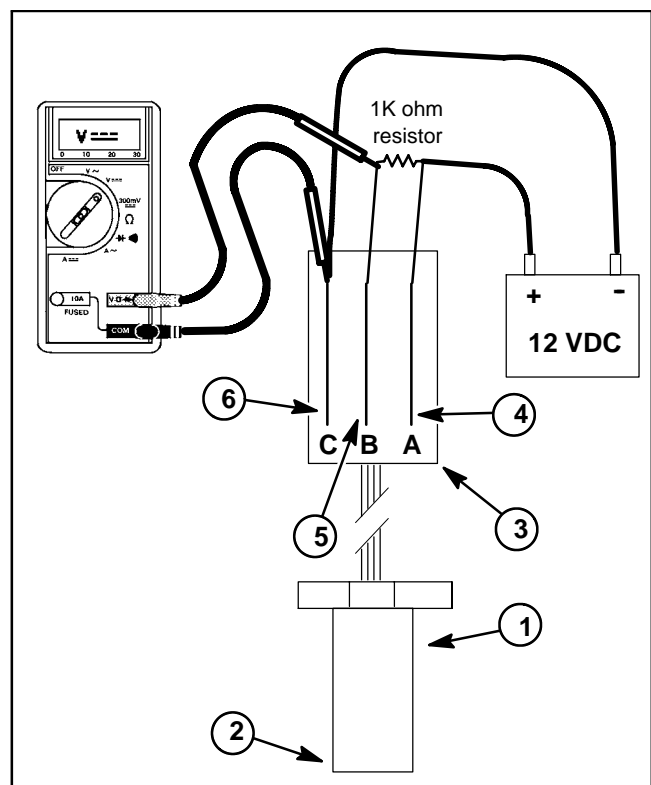

Figure 35
5. Using a +12 VDC battery, a multimeter, a 1K ohm resistor and appropriate jumper wires, connect the battery and multimeter to the speed sensor using Figure 35 as a guide.